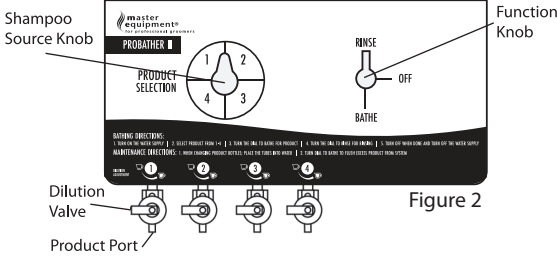

Figure 2
2. Turn on the water supply, rotate the function knob to RINSE as shown in Figure 2, until the coat is soaked and then turn to OFF position.